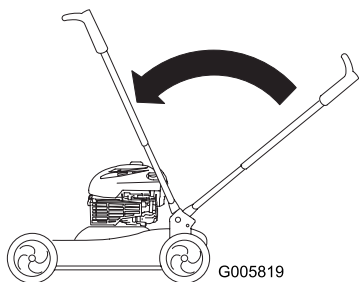

Figure 28
3. Raise the handle to the vertical position (Figure 28).